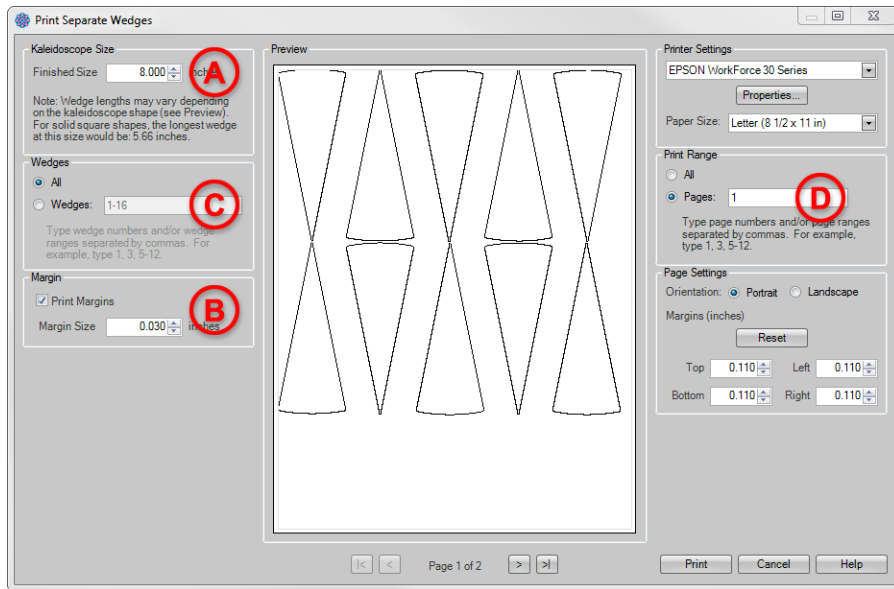

Figure 7
6. Print the wedges. File>Print Separate Wedges (or click on the little down arrow next to the printer icon in the Toolbar and choose Print Separate Wedges.) (Fig. 7)